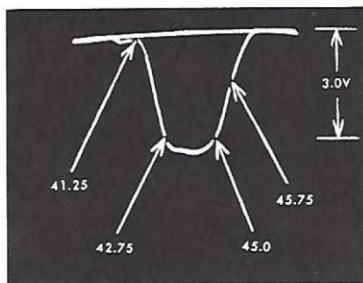
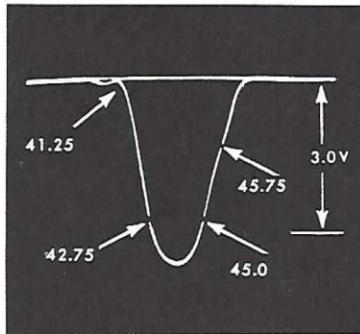

Fig. 8 Overall IF Response
Fig. 9 Overall IF Response 16E20 and 16E25 Chassis Only
5. Connect the sweep generator to terminal "A" (mixer grid, see Fig. 1, 2 or 3 depending on tuner). Connect terminal "F" to chassis and connect a jumper between terminal "E" and the junction of the 56 (68 in 16E20 and 16E25) and 1500 ohm resistors in the cathode of the 1st IF. Adjust sweep to obtain a response similar to Fig. 8. Switch oscilloscope to 10 X gain to "blow up" the traps.
7. Disconnect the jumper between "E" and the 56 and 1500 ohm cathode resistors. Connect this jumper between "E" and chassis. Adjust sweep generator for 3 volts peak to peak output. Alternately adjust the 2nd, 3rd, 1st IF and the converter plate coil until an overall response similar to Fig. 8 (Fig. 9 for 16E20 and 16E25 chassis) is obtained. It will be found that the 2nd IF affects the low side (42.75 Mc) and the 3rd IF the high side of the response. If the receiver is equipped with a target tuner, adjust the IF trap L1 (when used) for minimum response at 45.5 Mc. After alignment remove all jumpers and check operation.